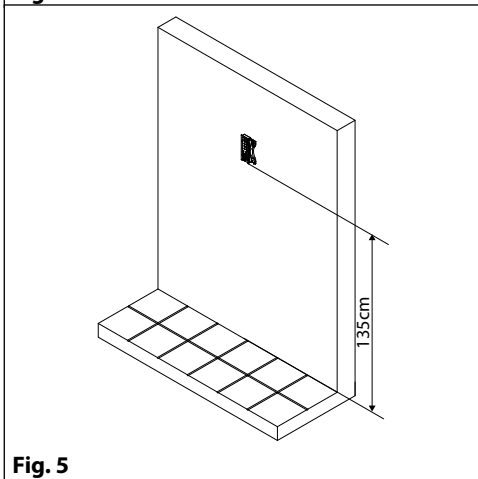
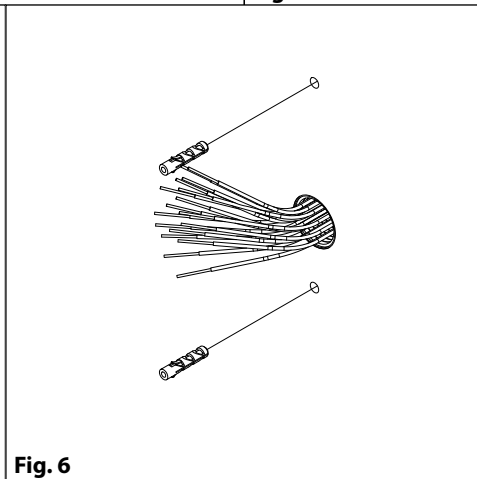

Fig. 5
Fig. 6
1. As shown in **Fig. 5**, place the intercom against the wall at 135cm height from the floor and mark the fixing holes. Make the holes (5mm diameter) and insert the provided wall plugs as shown in **Fig. 6**.